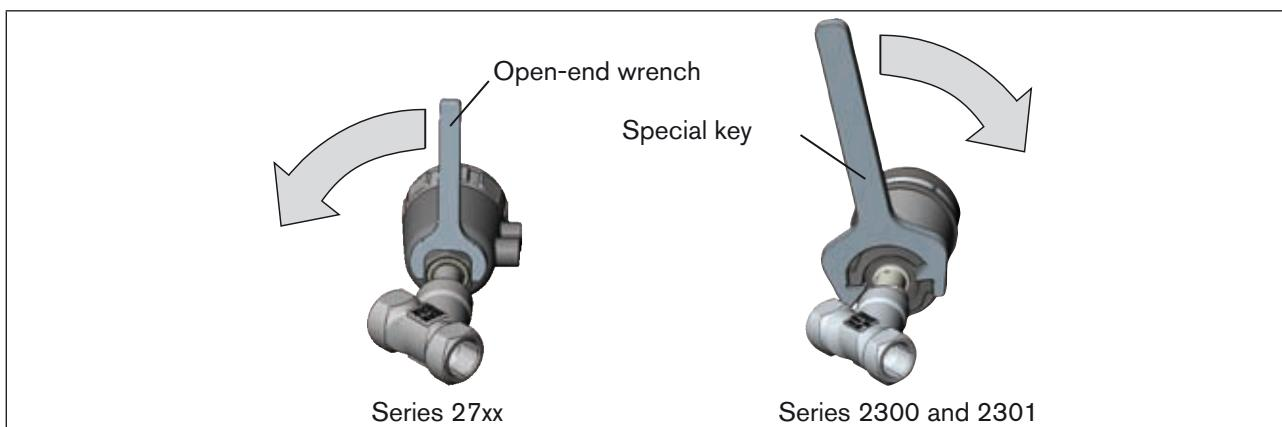

Fig. 23: Rotating with special key / open-end wrench
- Rotate the actuator module in the specified direction only (series 2300 and 2301 or 27xx, see “*Fig. 23:* “) !